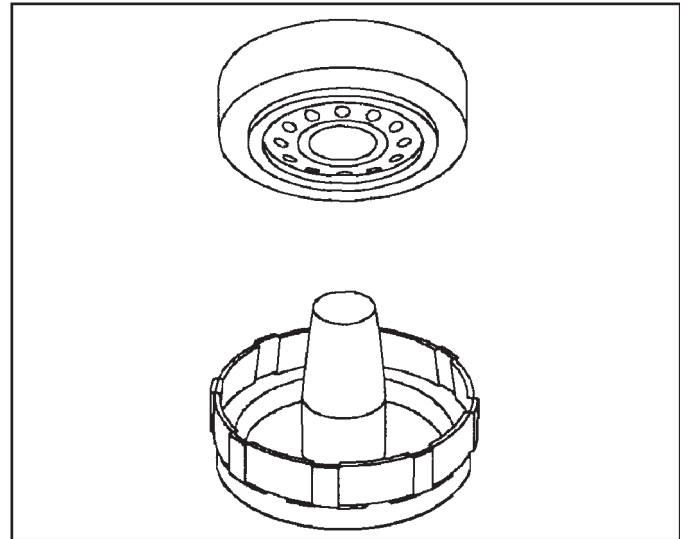

Figure 108
4. Lube the clutch piston seals with petroleum jelly and place the 1st clutch piston into the SA9117T-4 tool. Lay the piston and tool onto the 1st clutch drum and carefully push the piston down into the drum using the SA9117T-1 aligning tool (See Figure 108).